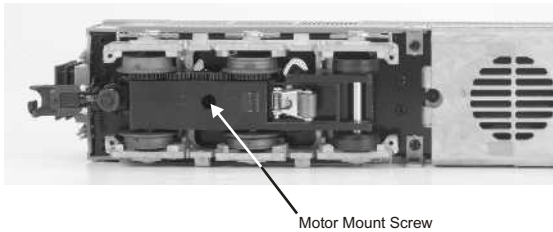

Figure 4
2. Once the body is removed, remove the trucks by unscrewing the motor mount screw located on the underside of the drive trucks. (See Figure 4)